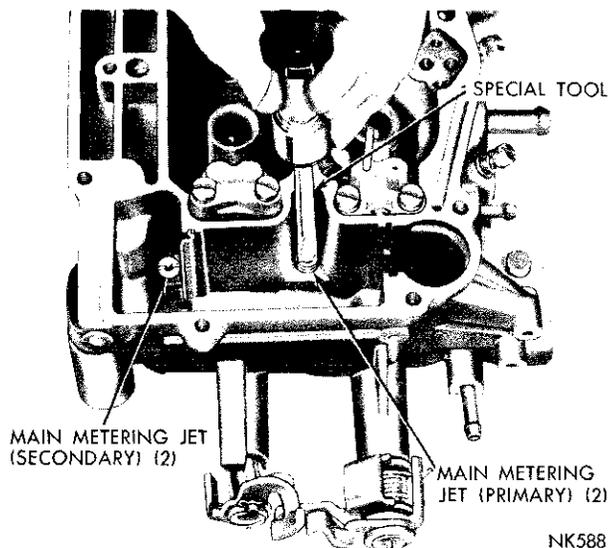

Fig. 4—Removing or Installing Main Metering Jet
jets (primary side), as shown in (Fig. 4).
(3) Again using Tool T109-58, remove the main metering jets (secondary side), as shown in (Fig. 4).
(6) Install the primary and secondary main metering jets, using Tool T109-58. Refer to (Fig. 4.) Tighten jets securely.
(7) Install the accelerator pump intake check ball using Tool T-109-59.